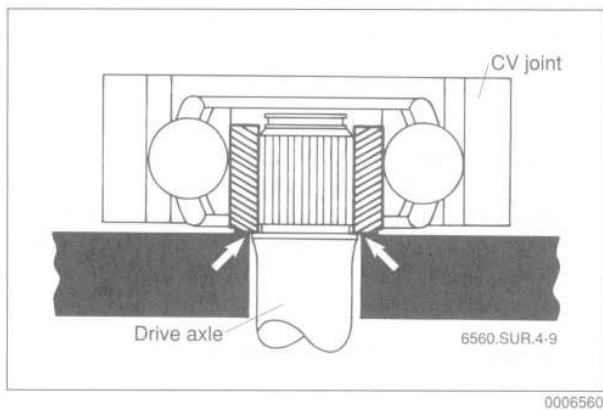

Fig. 12. Support CV joint at inner hub (arrows) during pressing operation.
4. While supporting the inner hub, press the drive axle out of the joint. See Fig. 12.
7. Apply Loctite®270 or an equivalent heavy-duty locking compound to the drive axle splines. Position the new CV joint on the shaft so that the hub with the raised or taller side is facing the shaft. See Fig. 12 above.